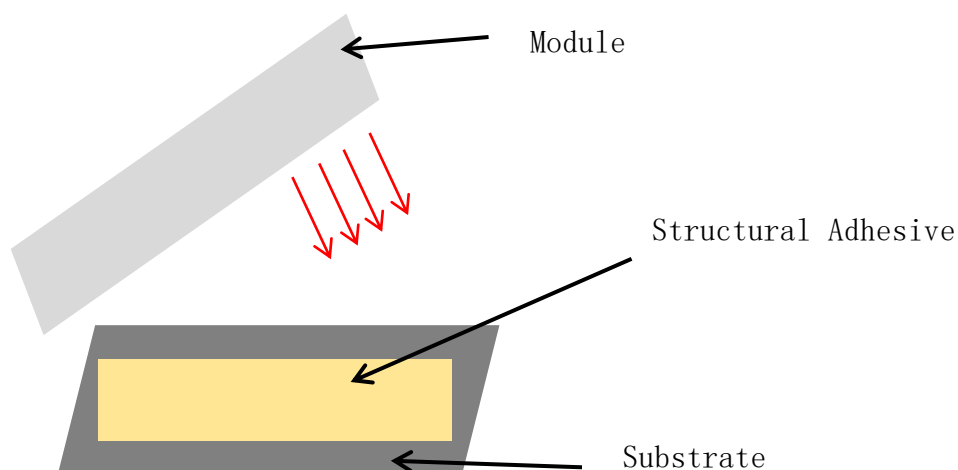

Figure 6: Applying adhesive to the substrate
- 8.4.1. Module installation shall utilize specialized structural adhesive; apply the structural adhesive evenly at the specified areas of the substrate where the module is to be installed, as shown in Figure 6.